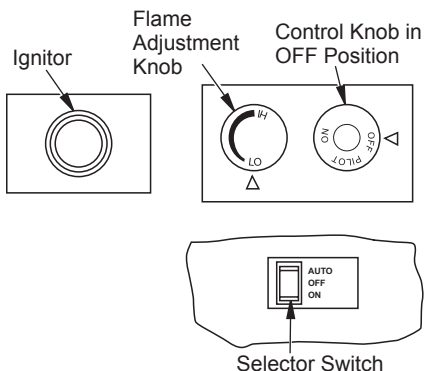

Figure 34 - Control Knob, Ignitor Button and AUTO/OFF/ON Switch
4. Press in and turn control knob clockwise  to the OFF position (see Figure 34, page 24).
5. Wait five (5) minutes to clear out any gas. Then smell for gas, including near the floor. If you smell gas, STOP! Follow "B" in the safety information, column 1. If you don't smell gas, go to the next step.
- Press in and turn control knob counterclockwise  to the PILOT position. Press in control knob for five (5) seconds (see Figure 34).